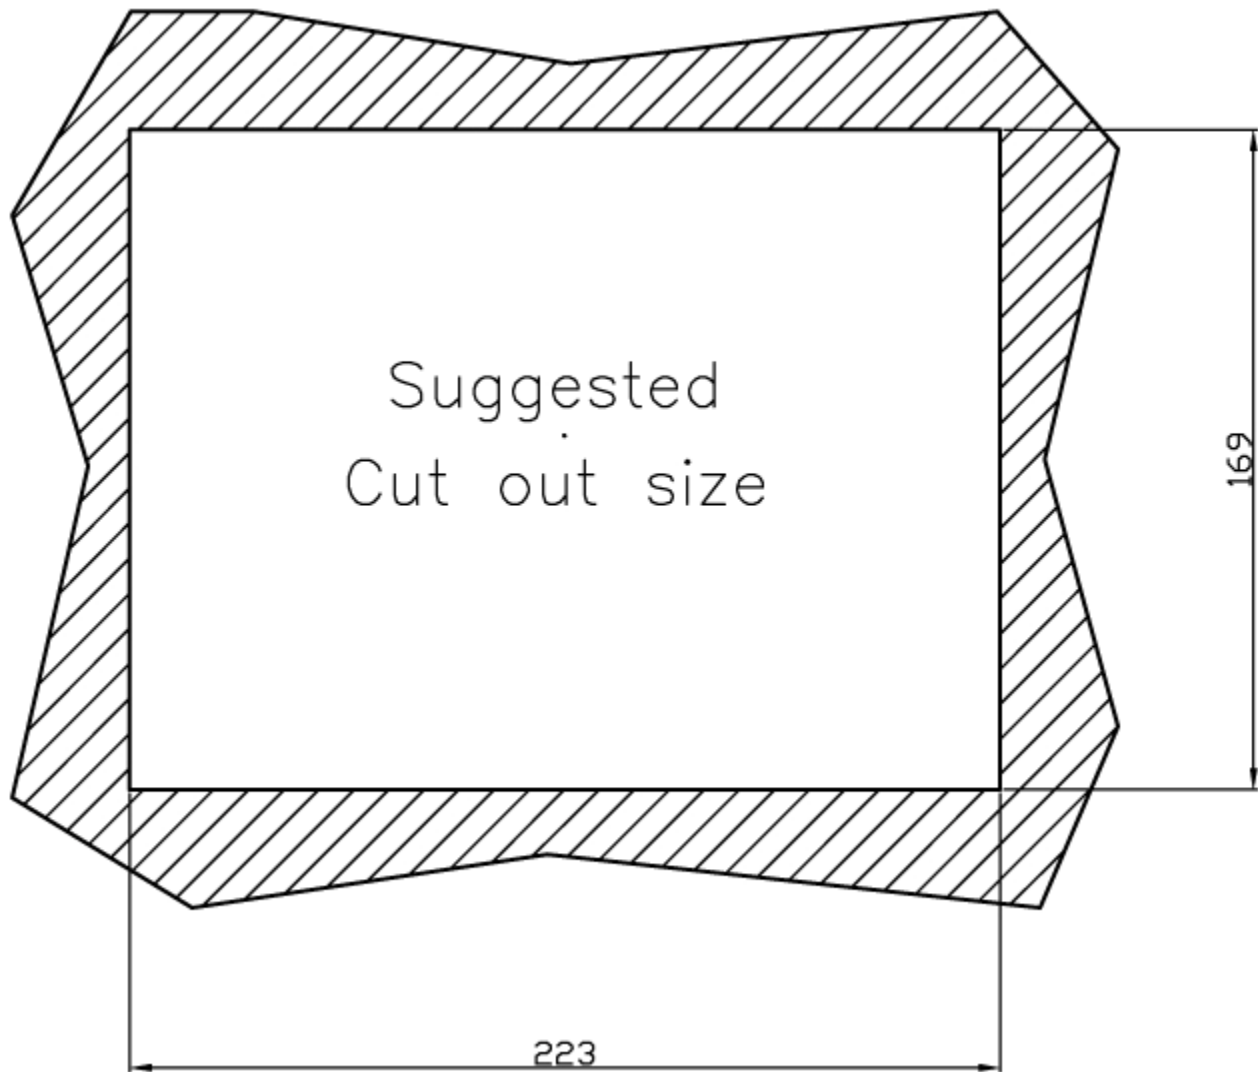

Figure 5 – DSM800 Cutout Dimensions (units in mm)
Step 2: Cut out a section from the panel that corresponds to the rear panel dimensions of the DSM800. Take care that the panel section that is cut out is smaller than the overall size of the metal frame that surrounds the DSM800 but just large enough for the rear panel of the DSM800 to fit through (Figure 5).